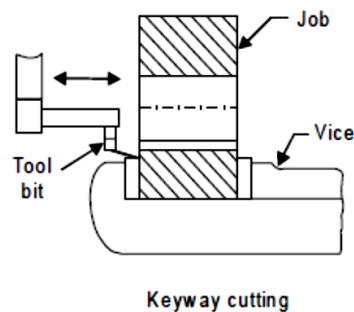

Fig. 23.11 Keyway cutting on shaper
5. Key ways cutting (Fig. 23.11)